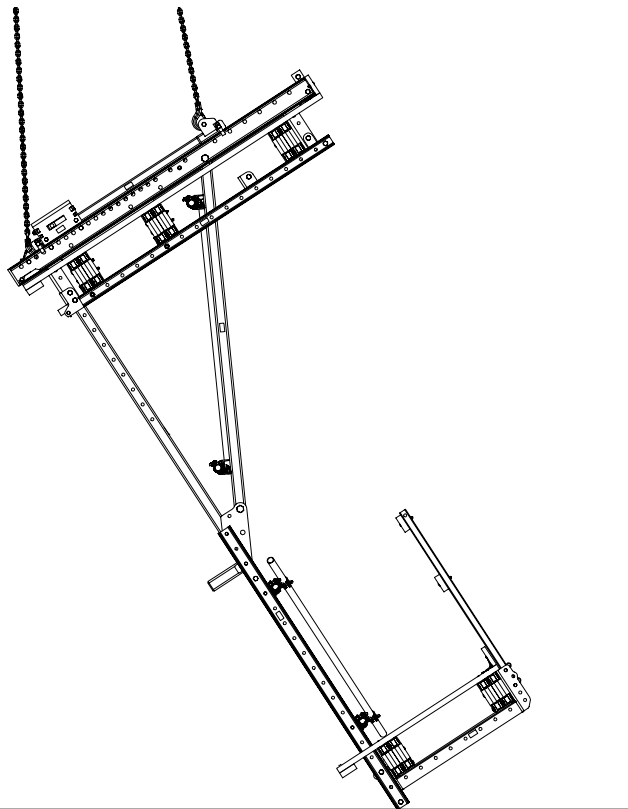

Fig. B7.04
5. Lift platform unit out of the Mounting Rings (**81**) and set down on the dismantling area. (Fig. B7.04)